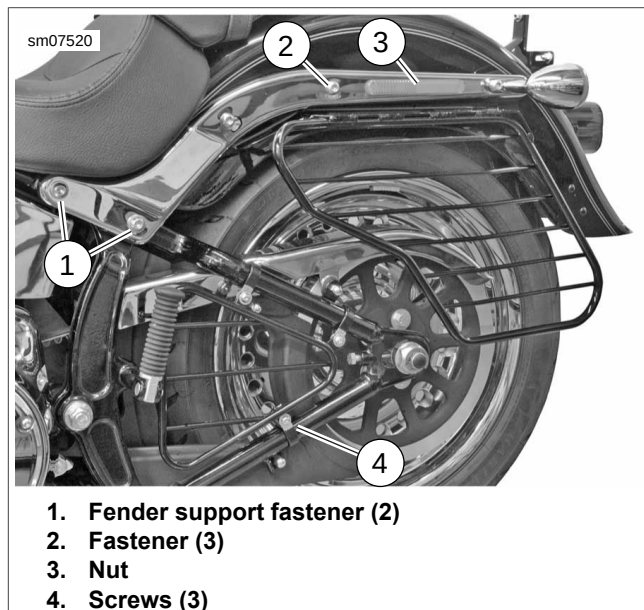

Figure 2-136. Left Saree Guards
1. See Figure 2-136. Loosen fender support fasteners (1).
2. Remove three fasteners (2).
3. Remove nut (3) located behind strut cover.
5. Remove screws (4) and lower saree guard.